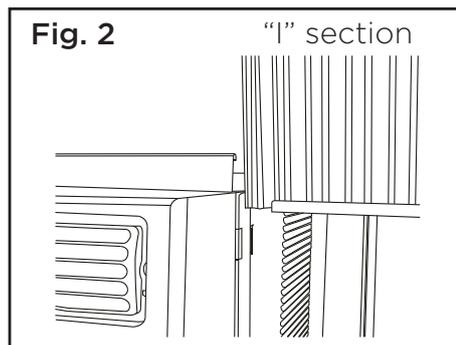

Fig. 2
- B. Slide the free end and "I" section of the panel directly into the cabinet as shown in Fig. 2. Slide the panel down. Be sure to leave enough space to slip the top and bottom of the frame into the rails on the cabinet.